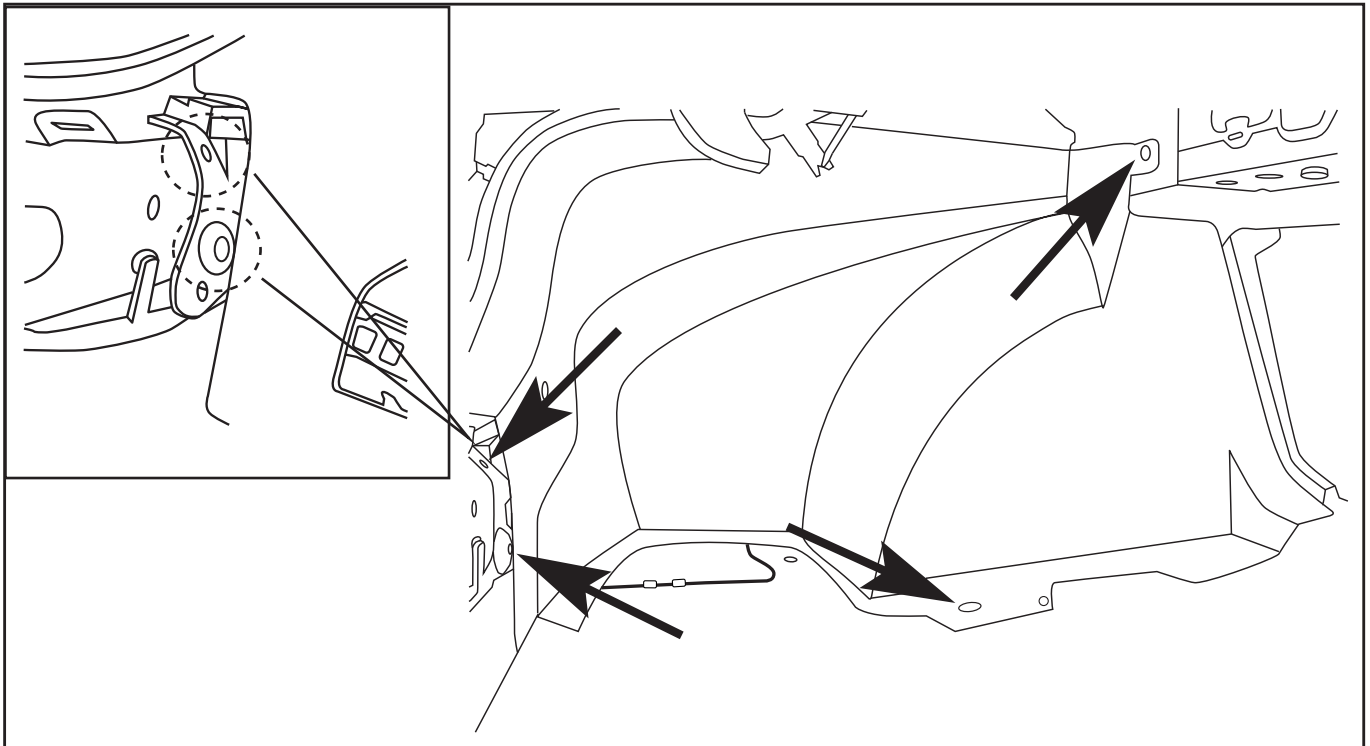

Fig. 11
13. Remove push-rivets from left-hand trunk trim (4 total) (Fig. 11).